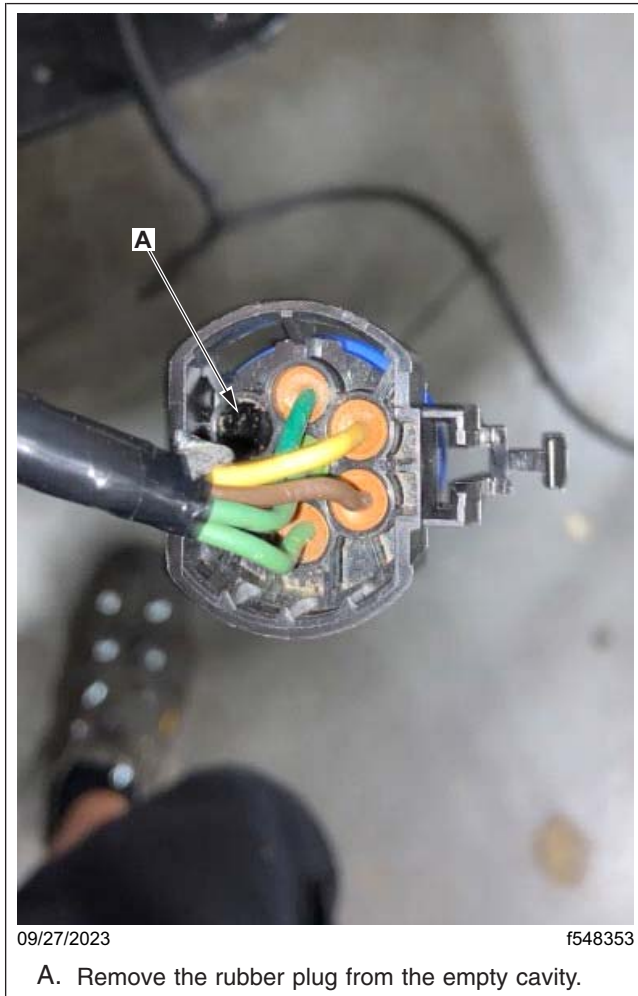

Fig. 85, Single Plow Light Interface Connector with the Plug Removed from the Empty Cavity
- Locate the empty cavity and remove the rubber plug. See Fig. 85